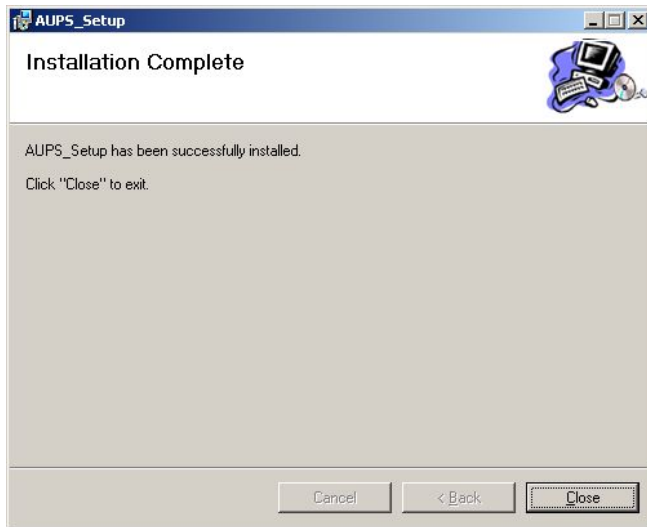

Figure 7-5: Installation Complete
Step 6: The Installation Complete window appears (Figure 7-5). Click **Close** to exit.